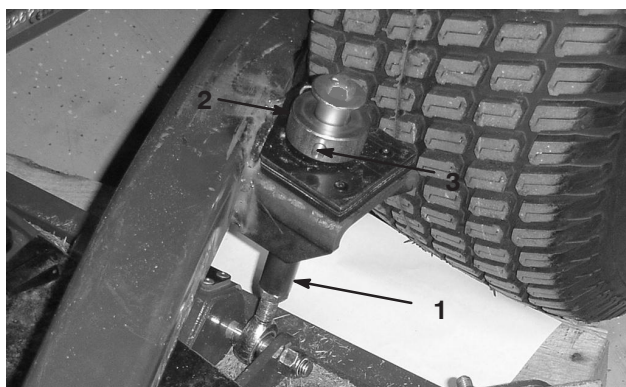

Figure 8
- Remove the hair pin and clevis pin securing the height of cut collar to the height of cut rod on the rear of the cutting unit (Fig. 8).